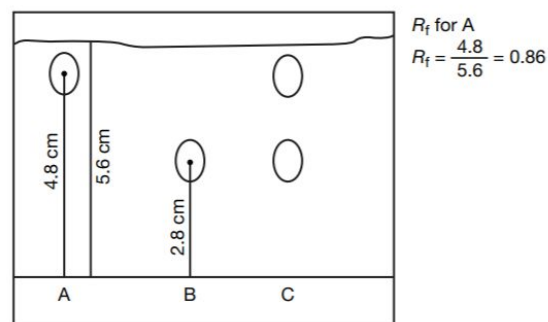

Figure 1.
1. Figure 1 is a sample paper chromatogram for three samples: A, B and C. Label the drawing with the following items: the stationary phase, the mobile phase and the solvent front.